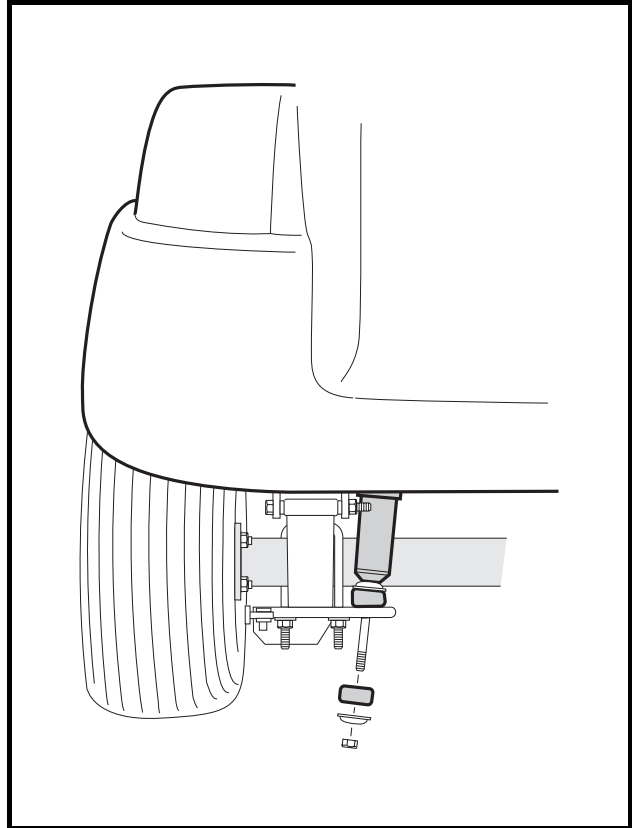

Figure 17-19 Shock Absorbers
5. Position shocks in the shock mounts and install cushions, mounting washers, and nuts. Tighten nuts until cushions expand to be the same diameter as the mounting washers (**Figure 17-19, Page 17-13**).